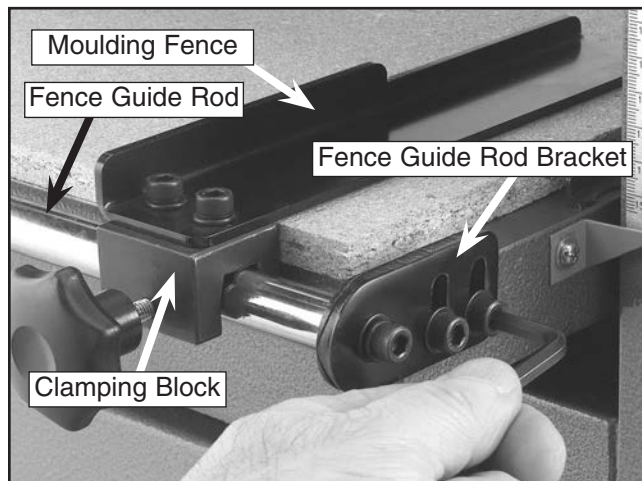

Figure 18. Fence rod brackets
4. Install the fence rod guide brackets onto the edge of the work table with 4 cap screws and flat washers as shown in **Figure 18**. Do not tighten the cap screws at this time.